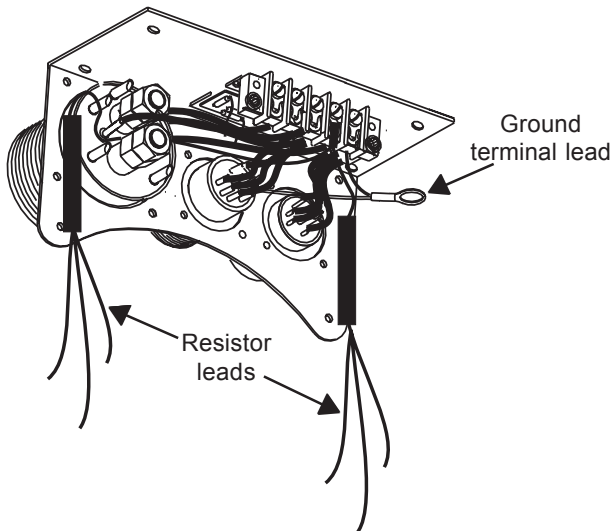

Figure 1—New Control Unit Assembly
1. Attach new control unit assembly (see Figure 1) to housing. Use suitable adhesive, such as Loctite® 222. Follow manufacturer's instructions. Torque new hardware to 5 Nm/45 lb. in.